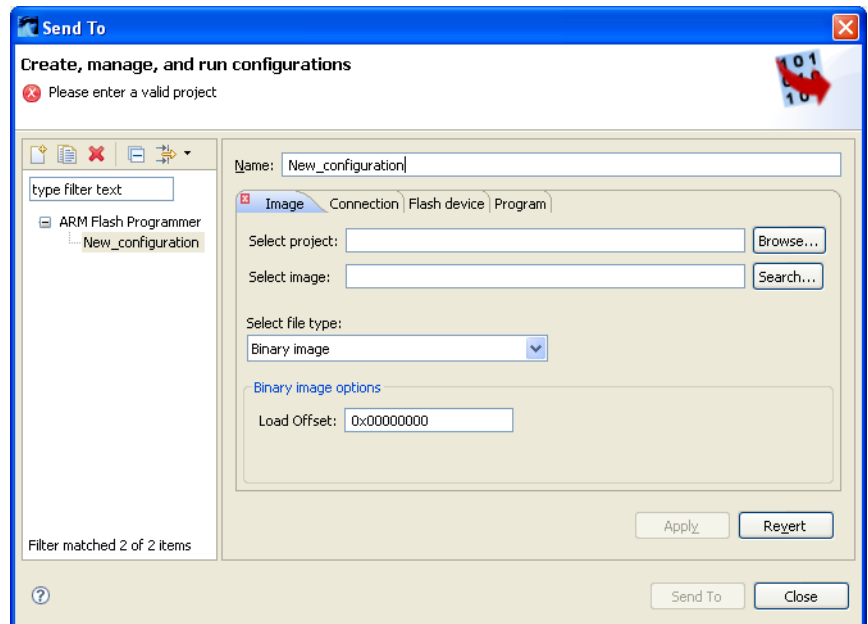

Figure 6-2 Create, manage, and run configurations
2. Use the tabs in the Send To dialog box to complete this process. An example is shown in Figure 6-2.